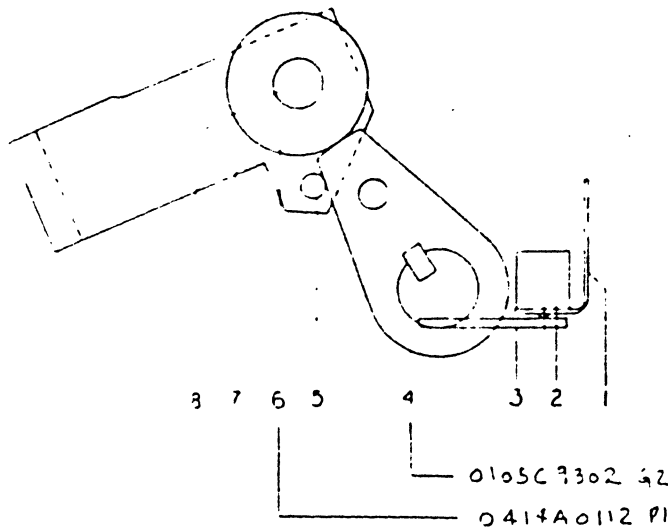

Figure 14 (0121C8152) Latch Checking Switch
Refer to Figure 14. Charge the closing springs sufficiently to reset the mechanism linkage. Rotate the trip latch (4) by pressing the manual trip lever to open the latch checking switch (2). Allow the trip latch to reset slowly and determine the point at which the contacts are made by using a circuit continuity tester (light indicator, bell set, etc). The contacts of the latch checking switch should just make when the gap between the trip latch (4) and the stop pin (5) located on the latch roller link (7) is $1/16''$. There should be a minimum of $1/64''$ between the switch arm (3) and the switch support (1). To obtain adjustment of the latch checking switch, bend the latch checking switch arm (3).